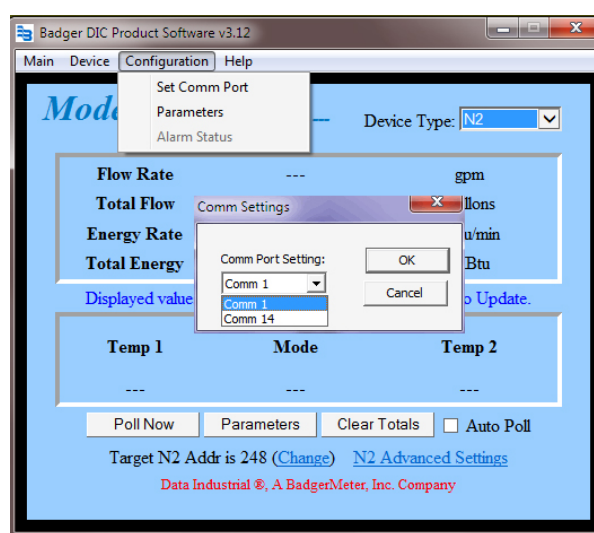

Figure 12: Set Comm port
6. From the **Configuration** option in the menu bar, select **Set Comm Port**. The Comm Settings window opens as shown in *Figure 12*.